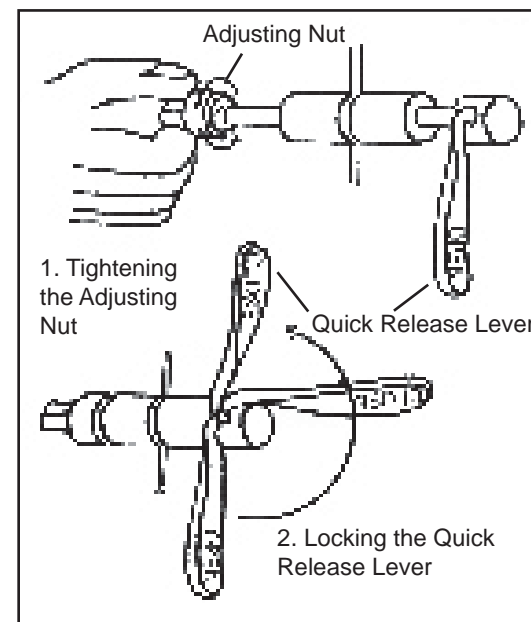

Fig. 2: Operation of Quick Release Levers
OPERATION OF QUICK RELEASES (FIG. 2):
The tightness of the lever is adjusted with the nut opposite the release lever and by rotating the quick release lever. Turn the nut by hand to adjust the tension while holding the lever stable (Fig. 2).
3. To lock the release lever, push lever up and over towards the bike frame until it turns over 180° and the word "open" is no longer visible (Fig. 2), or the lever curves toward the bicycle. The lever is securely tightened when it leaves an imprint on the palm of your hand from pushing it closed.